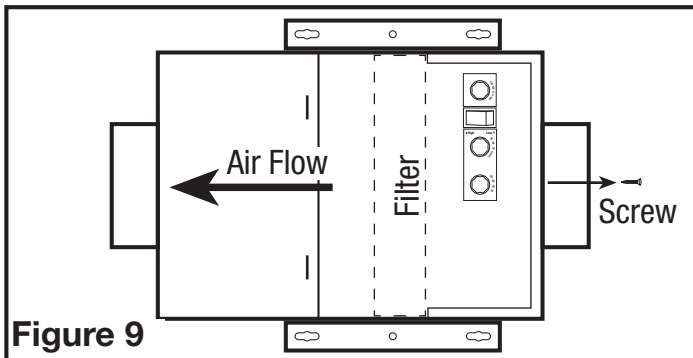

Figure 9
- Ensure the filter is facing the correct way and slide the filter into the slot in the housing. Make sure the filter is seated all the way to the bottom of the housing (**Figure 9**).